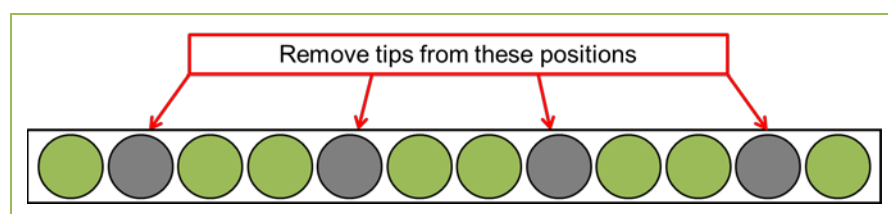

Figure 2: Tip Loading Strategy for a 12-channel Pipettor
5. Before adding medium, load a 12-channel pipettor with sterile tips and remove tips from the positions identified in Figure 2.